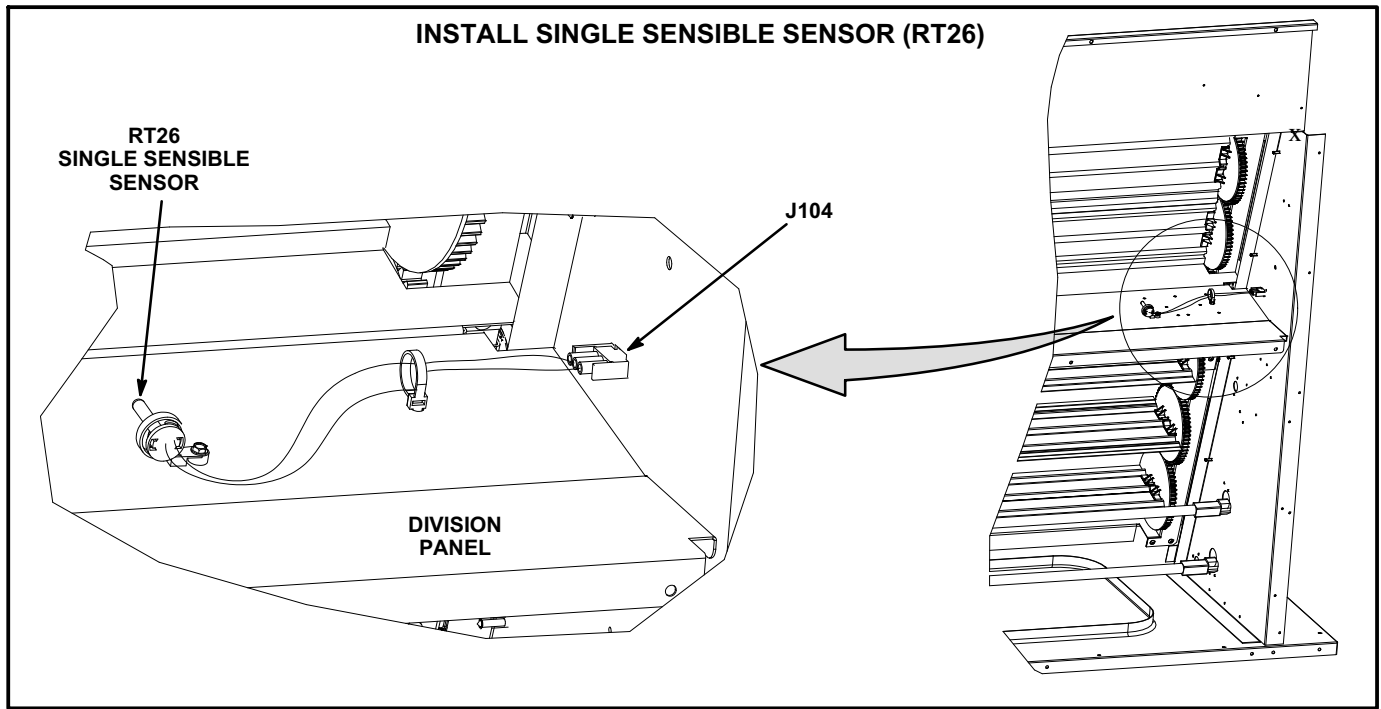
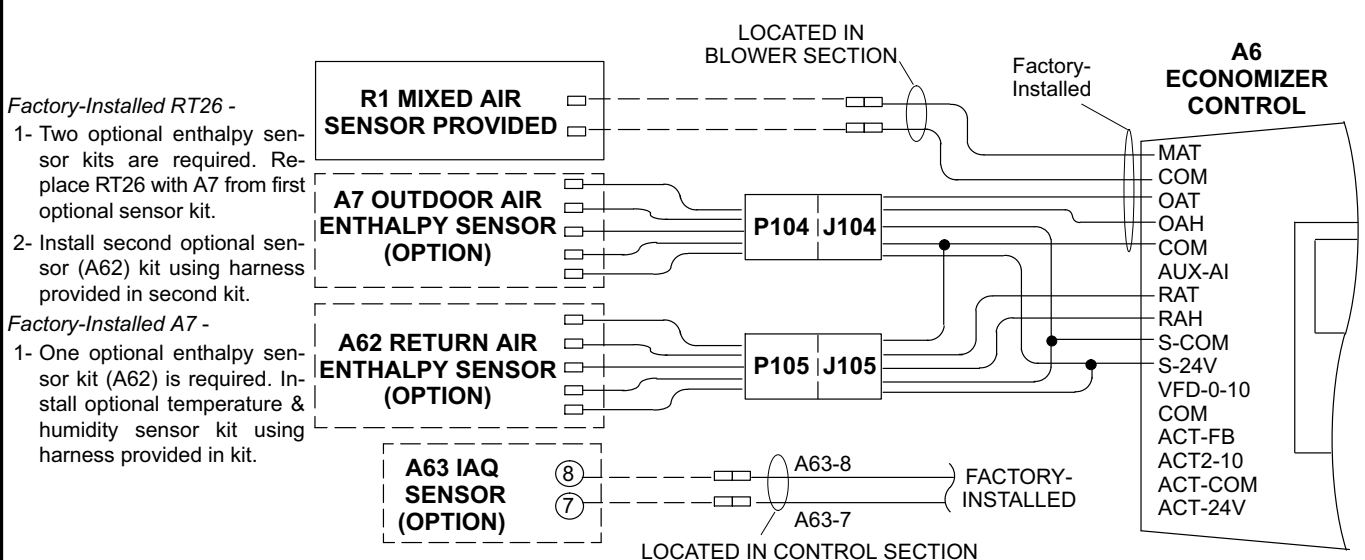

FIGURE 16
FIGURE 17
- 1- Install RT26 sensor onto the divider panel as shown in figure 16. Use #6-32 X 7/8" TFS screws provided.
- 1- Locate **brown and white kit harness** with wires labeled P104-1 & P104-2 one one end and RT26-1 & 2 on the other end. Insert the connector with wires labeled P104-1 & 2 into J104 jack previously installed on the side of the economizer. See figure 16. Connect wires on other end of P104 harness to RT26 on divider panel. See figure 17.